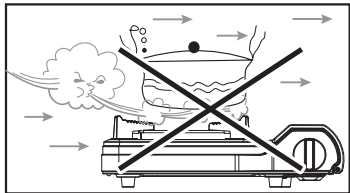

Fig. 1
- Do not use appliance in windy place (Fig. 1)